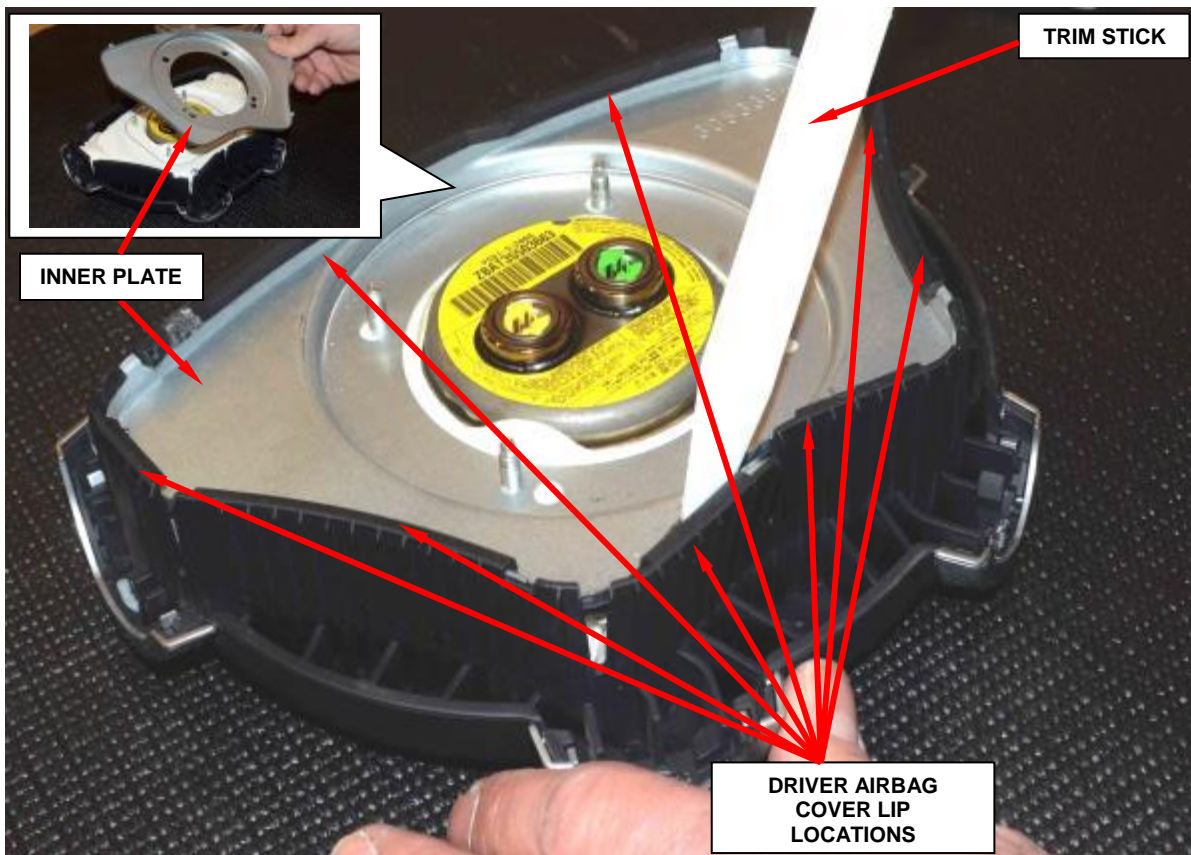

**Figure 5 – Outer Plate Removal**
9. Remove and **save** the outer plate by hand (Figure 5).